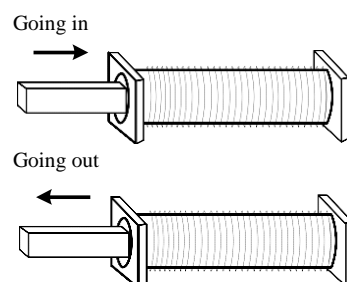

Figure 5
2) Click Start in DataStudio and move the magnet relative to the solenoid as shown in Figure 5. Try to understand how the graph is representing the motion of the magnet; pay particular attention to what happens as you change the speed of the magnet, flip its polarity, or use the other end of the solenoid, which is essentially equivalent to reversing the leads to the voltage sensor. Each person in the lab group should take a turn moving the magnet until they understand these 3 basic features. If the data on the graph becomes too small to see well, then you may click Stop and then Start to reset data collection; you may also completely clear the data by selecting "Delete All Data Runs" under the Experiment tab as many times as you need.